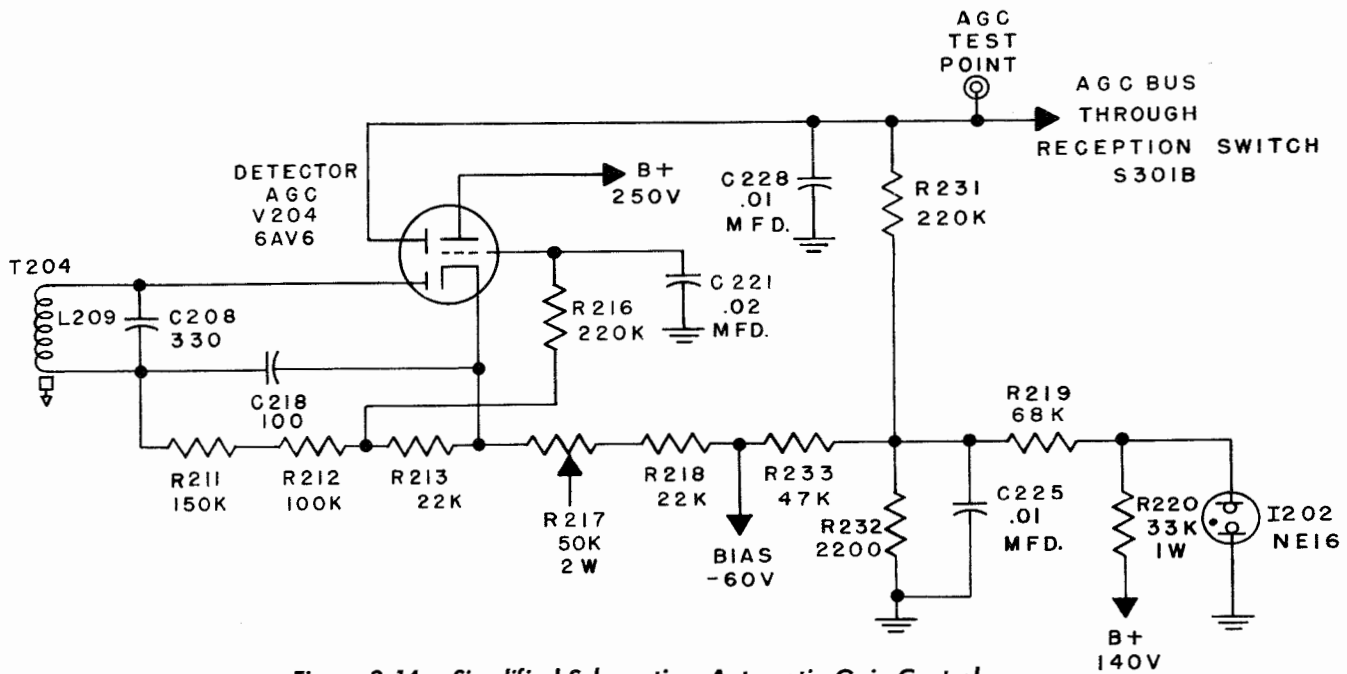

Figure 2-14. Simplified Schematic—Automatic Gain Control
(4) AUTOMATIC GAIN CONTROL (AGC).— An amplified and delayed type of automatic gain control is utilized, as indicated in the simplified schematic, figure 2-14; delayed meaning a voltage delay, not a time delay. This circuit functions in such a way that AGC action is delayed until the incoming carrier strength reaches a pre-determined level and then a control voltage is applied to the stages to be regulated. In this circuit, the rectified IF voltage output of the detector is divided across load resistors R211, R212 and R213. A small portion of this voltage is applied through R216, which with C221 acts as a filter, to the grid of the triode portion of V204, a type 6AV6 tube. B+ voltage is applied to the triode plate of V204 and negative voltage from a -60 volt source is applied through R218 and R217 to the cathode. The tube may be considered as a variable resistor in a voltage divider with the cathode at a tap. The resistance values are proportioned so that in the absence of signal, the voltage drop through the triode portion of V204 from the B+ voltage is less than the B- drop through R218 and R217. Therefore, the cathode is at a slightly positive potential at this time. The pin 5 diode plate of V204 is connected to ground through R231 and R232. Therefore, the cathode of V204 is positive in respect to this diode plate and no conduction is possible between these tube elements. When a signal is received, the rectified RF voltage appearing across load resistor R213 is applied through R216 to the grid of V204. This voltage is negative in respect to the cathode and therefore begins to reduce the plate current going through V204. This increases the plate resistance of V204 and the potential of the cathode will decrease. As the signal increases, the triode section will be biased greater and a point will be reached when the cathode of V204 will no longer be positive with respect to ground and will actually become negative. When this point is reached, the cathode is now negative in respect to pin 5 diode of V204 and conduction between the two takes place. A portion of the negative voltage on the cathode of V204 is developed across load resistors R231 and R232. This negative voltage is connected to the AGC line through RECEPTION switch (S301B) and applied to the RF amplifier (V101), the first mixer